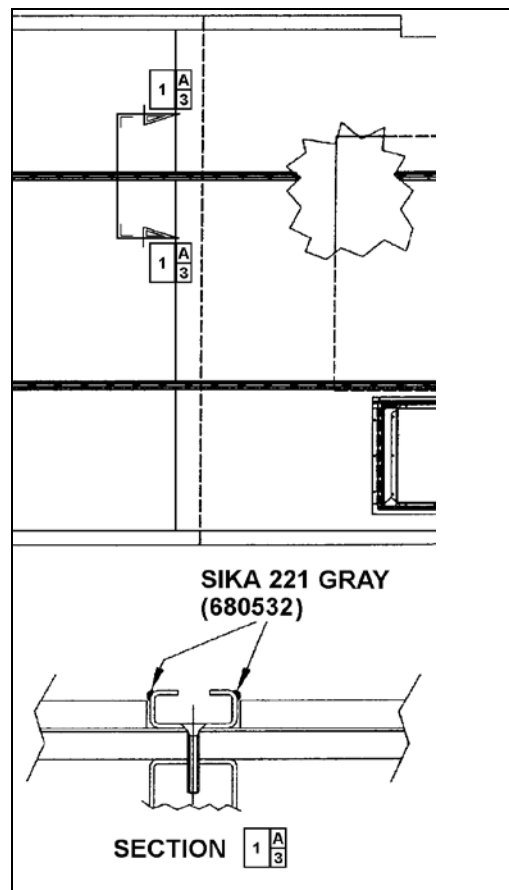

FIGURE 50: APPLICATION OF SIKA 221 GRAY 18641
8. Apply Sikaflex 221 gray sealant (680532) alongside passenger seat fixing tracks (refer to figure 50).